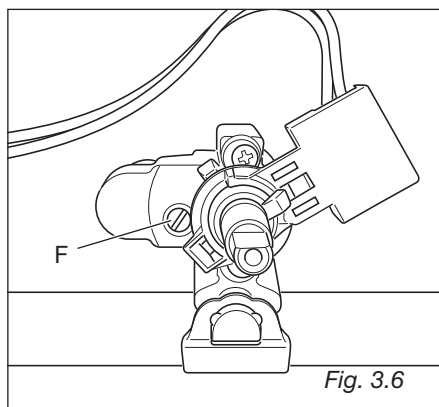

Fig. 3.6
- With a thin screwdriver turn the screw **F** until adjustment is correct (fig. 3.6).